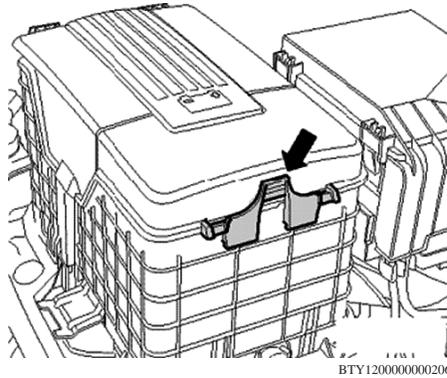

Fig. 1 Battery box cover removal
5. Open locking mechanism (arrow) and remove battery box cover, **Fig. 1**.
7. Install battery box cover, and close locking mechanism (arrow), **Fig. 1**.